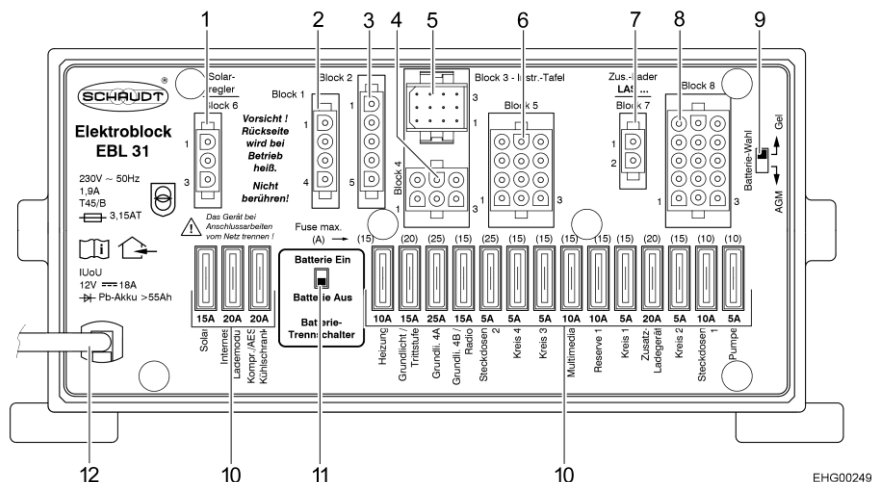

Fig. 66 Transformer/rectifier (EBL 31)
- ▷ To disconnect all electrical 12 V appliances from the power supply and prevent discharge of the living area battery, set the battery cut-off switch (Fig. 66,11) to "Batterie Aus" (battery Off) on the transformer/rectifier.
- ▷ Appliances such as the charger, the solar charge regulator, the panel, or similar, take power from the battery, even when the 12 V main switch has been switched off on the panel (Fig. 67,6). Therefore, you switch the battery cut-off switch (Fig. 66,11) on the transformer/rectifier to "Batterie Aus" (battery Off) when the vehicle is not used for a long period of time.